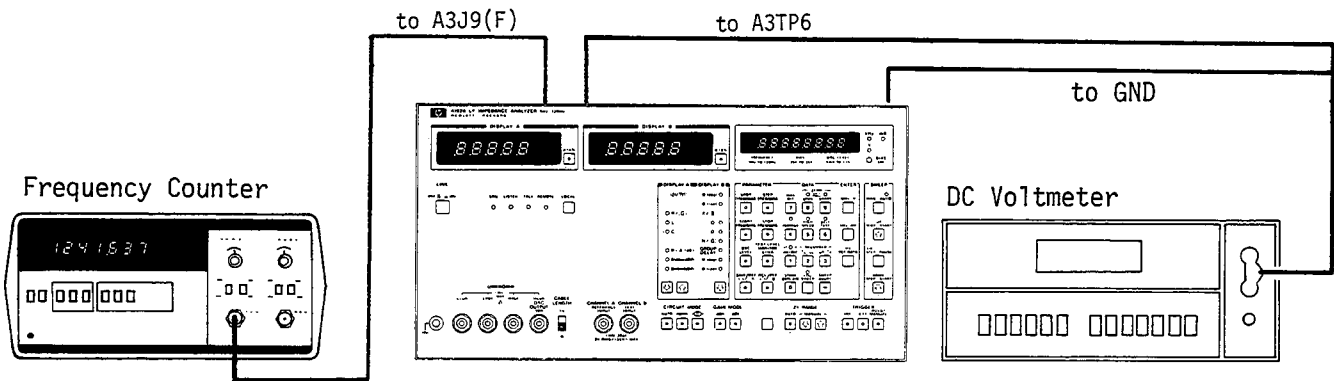

Figure 5-3. A3 40MHz VCXO Adjustment/40MHz-IF VCO Adjustment Setup.
(1) 40MHz VCXO Adjustment
- a. Disconnect the SMB cable from A3J9 (F).
- b. Connect A3J9 (F) to the input terminal of the 5314A with the BNC-to-SMB cable as shown in Figure 5-3.
(2) 40MHz-IF VCO Adjustment
- e. Connect the high lead to A3TP6 (VCO CTL) and the low lead to the chassis as shown in Figure 5-3.